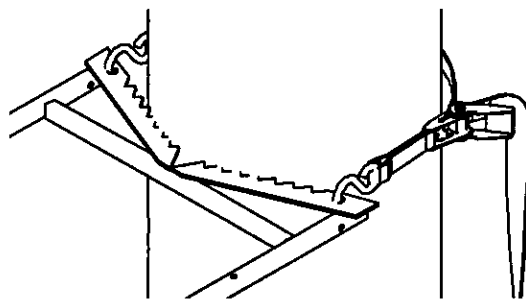

Figure 2
4. Standing on ladder step, lean toward tree with ratchet strap now in hand, hook "S" hook with long strap through hole provided on tree blade. Feed the long strap through the center (slot) of ratcheting mechanism and back around through tightening lever. **SEE FIGURES 2 and 3.**
Wrap entire ratchet assembly around tree and hook other "S" hook through opposite tree blade hole. Pull tail of long strap until most of the slack is taken out. Be sure entire strap is even and at the same level all around tree. "Ratchet" tight to tree, this will securely attach ladder to tree and prevent movement. **SEE FIGURES 2 and 4.**